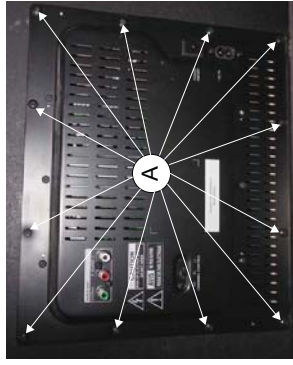

Figure 1
- 1) Loosen 12 screws "A" at the back panel as shown in figure 1.